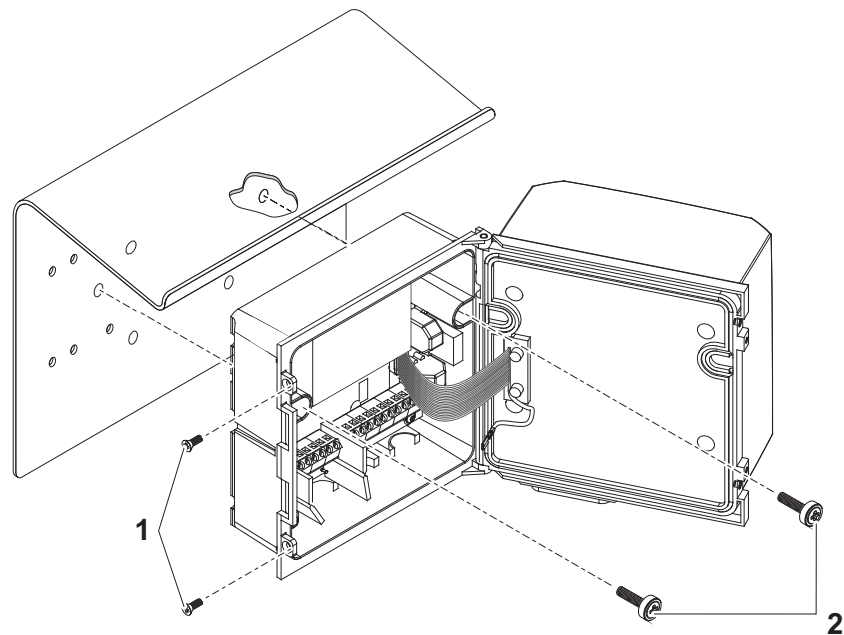

figure 3-1 Mounting the DPM with sun shield SD/K 170
- 4 Using the mounting brackets, install the DPM Controller or DPM-IC2 on the handrail directly above the tapped air distributor (header) (See figure 3-1).
- 5 Remove the two countersunk screws (pos. 1 in figure 3-1) and swing open the module lid.
- 6 Position the universal transmitter on the sun shield and fix it into place with the two screws (pos. 2 in figure 3-1).
- 7 Close the lid and fix it with the two countersunk screws (pos. 1 in figure 3-1).